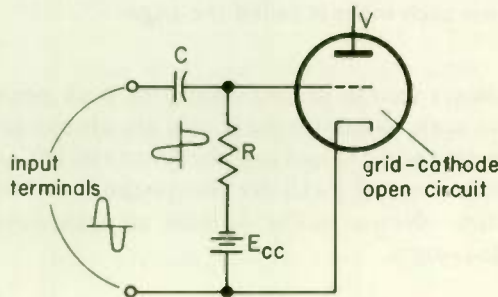

Fig. 11
9. (a) 2.6; (b) 1.2 10. (a) Larger (b) Low ... See Fig. 11.